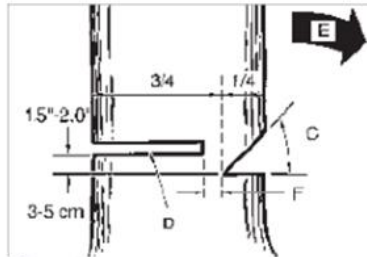

Fig 3b
**WARNING:** Do not pass in front of covered trees. Make the felling cut (D) on the opposite side of the shaft and 3 - 5 cm (1.5 - 2.0 inches) above the edge of the plug (C) (Fig. 3b)